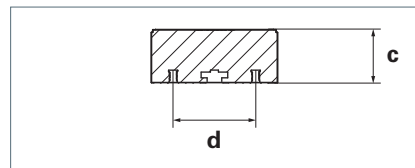
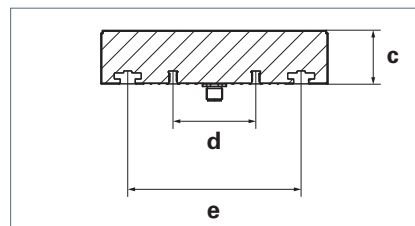

Fig. 2: Dimensions MSAL 24/48/72/96 S, cross section through the short side of the light.
Fig. 3: Dimensions MSAL 90/180 S, cross section through the short side of the light.
- ▶ Mount the light with suitable slide nuts M5 to the mounting surface. For the distances of the tee-slots on the light MQAL 90/180 S, see Fig. 3.
- ▶ Mount the light with the suitable screws M6 to the mounting surface. For the distances of the screw channels on the light, see Fig. 2 and see Fig. 3.